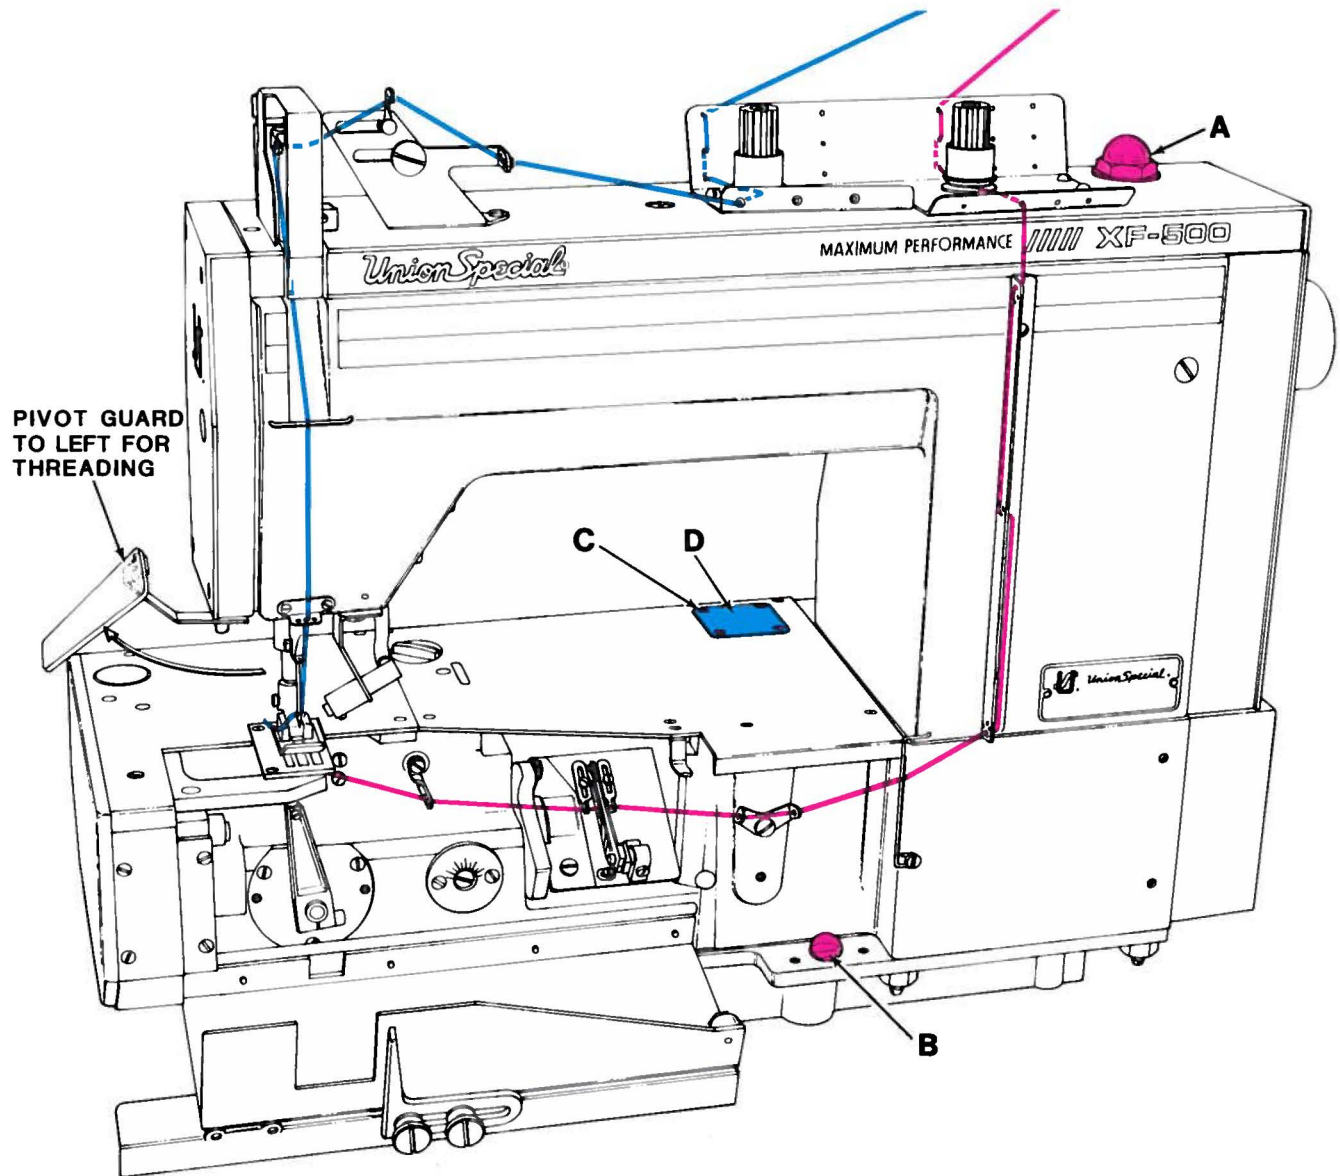

Fig. 1
Oil has been drained from main reservoir before shipment. Use a straight mineral oil with a Saybolt viscosity of 90 to 125 seconds at 100 degrees F. This is equivalent to UNION SPECIAL specification No. 175. Remove oil filler cap (A, Fig. 1) and fill to TOP line of level gauge (B). Replace filler cap.
THREAD MACHINE AS ILLUSTRATED IN FIG. 1.